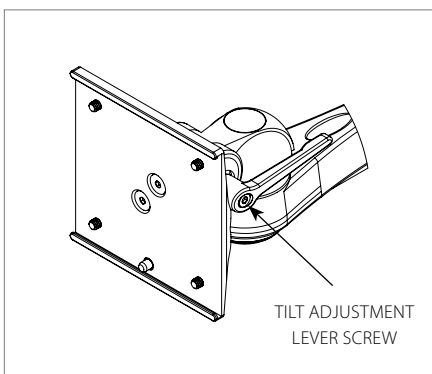
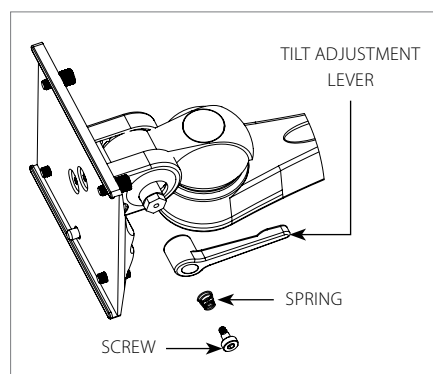
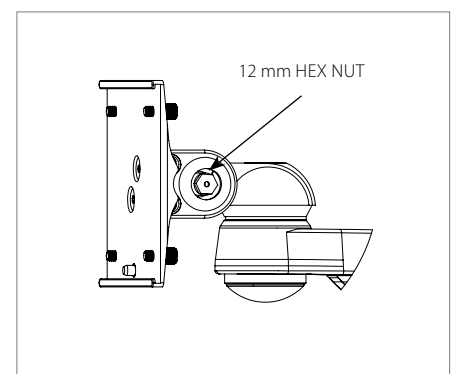

Figure 5
Figure 6
Figure 7
3. If a sufficient level of tightness cannot be achieved, use a **4 mm ALLEN KEY** to loosen the **SCREW** that keeps the **TILT ADJUSTMENT LEVER** in place (Figure 5). Remove the **SCREW** and **SPRING** and **TILT ADJUSTMENT LEVER** (Figure 6) to reveal the **12 mm HEX NUT** (Figure 7).